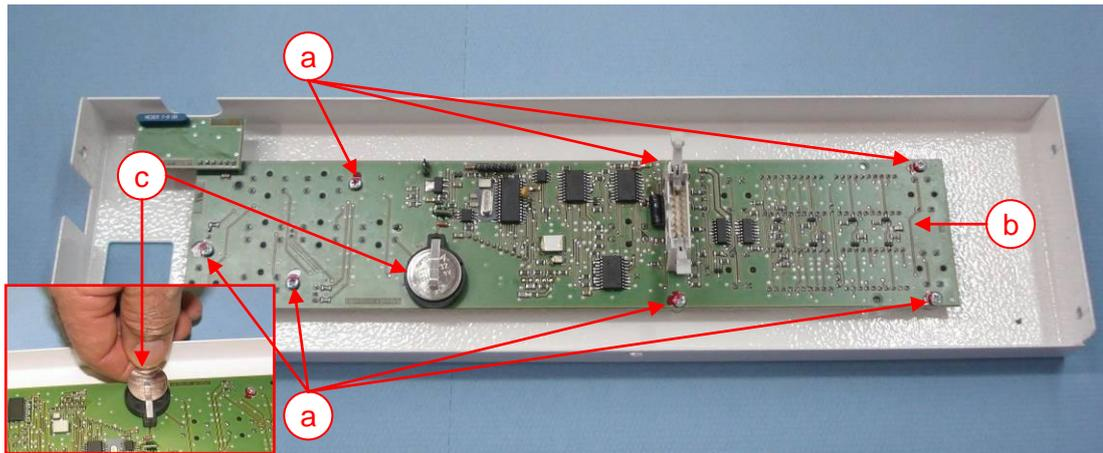

Fig. 19 – processor circuit board.
- Remove the 7 screws (Fig. 19 a).
- Remove processor circuit board (Fig. 19 b) from housing.
- Replace the battery (Fig. 19 c), taking care not to reverse the polarity. The + pole is on top.